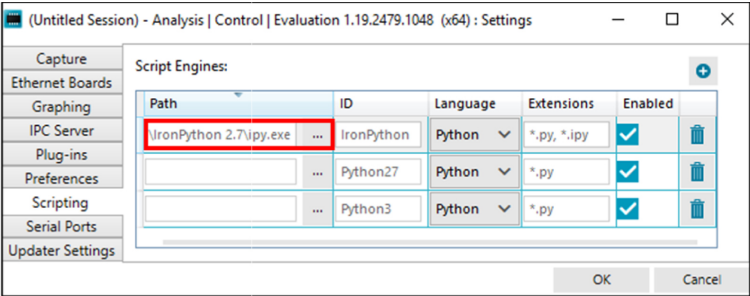

Figure 61. Providing IronPython Path to ACE for Enabling Script Execution
- 1. Provide the following path to the host PC IronPython installation under ACE: **Settings > Scripting > Path** as shown in Figure 61. This step must only be completed after installing ACE.